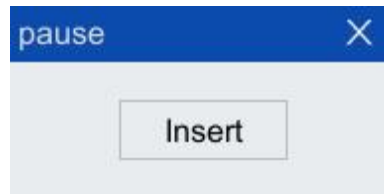

Figure 5-35 The "Pause" Instruction configuration interface
Step1. Click "Insert cmd> Process Control> pause" option in the toolbar of the program editor to pop up "pause" instruction interface, as shown in Figure 5-35.